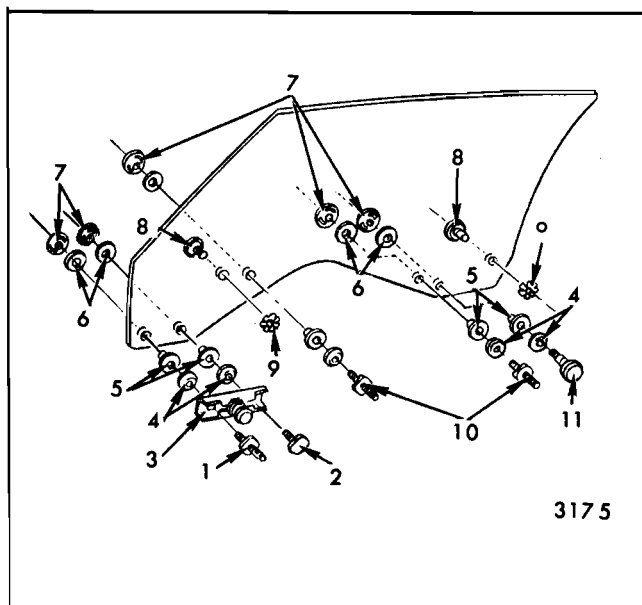
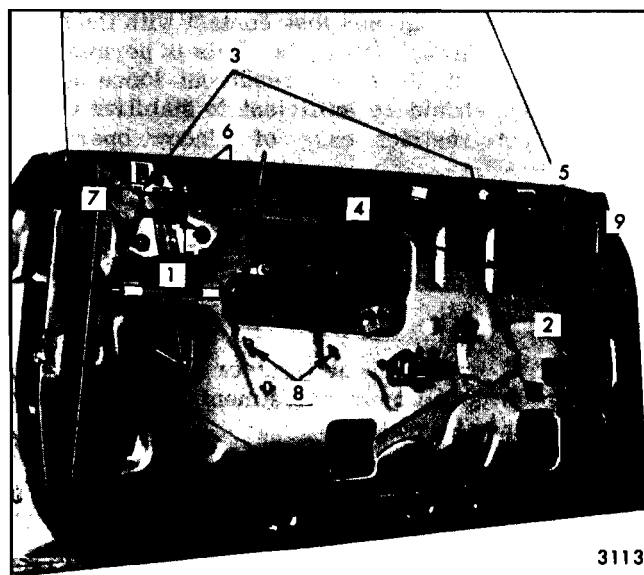
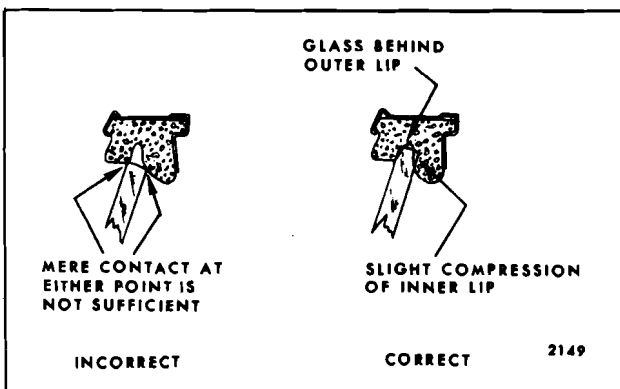

Fig. 6-82—Front Door Window Assembly "A-37, 67 and 87" Styles and "G-57" Styles
Fig. 6-83—Front Door Window Removal and Adjustment - "A-37, 67 and 87" Styles and "G-57" Styles
Fig. 6-84—Window to Side Roof Rail Weatherstrip Alignment
Figure 6-82 is an exploded view of the window assembly and identifies the various components and their assembly sequence.
2. Loosen window rear up travel stop bolt ("1", Figure 6-83) and remove stop from rear guide.
3. Using a 1/4" hex-head wrench, remove front up-stop from window front roller cam ("2", Figure 6-83).
4. Remove window stabilizer strip assembly bolts ("3", Figure 6-83) and remove stabilizer strips.
5. Remove window lower sash channel cam to glass attaching stud nuts ("4", Figure 6-83). Tilt top edge of glass inboard and disengage window (with studs intact) from lower sash channel cam.
1. In and out adjustment of the glass is controlled by the in and out adjustment available at the top of the front and rear guides ("5" and "6", Figure 6-83) and the in and out position of the glass stabilizer strip assemblies ("3").
2. Fore and aft adjustment of the window assembly is controlled by the position of the rear guide. The upper guide bracket to guide attaching locations ("7", Figure 6-83) are slotted to permit fore and aft adjustment of the guide. Because of the free floating roller in the window front sash channel cam (Figure 6-82), the front guide does not have to be adjusted during fore or aft window alignment.
3. Ease of window operation and window stability depend to a great extent on the adjustment of the window stabilizer strip assemblies at the beltline ("3", Figure 6-83). The stabilizing strips ("3") should contact the glass throughout the full cycle of the window. Due to slight variations in glass contour, however, in some
4. A window that is rotated (cocked) in the window opening may be the result of an improperly adjusted inner panel cam ("8", Figure 6-83) or poorly adjusted up-travel stops ("1" or "9", Figure 6-83).
Correct a poorly adjusted inner panel cam by loosening cam attaching bolts ("8", Figure 6-83) and adjusting front end of cam up or down as required. Adjustment of cam repositions front edge of glass up or down in relation to rear edge of glass.
5. The up-travel of the window is determined by the adjustment of the front and rear window up-travel stops ("1" and "9", Figure 6-83). To adjust window up-travel, loosen front and rear up-stops and operate window to desired position to establish proper glass to side roof rail weatherstrip contact (Figure 6-84).